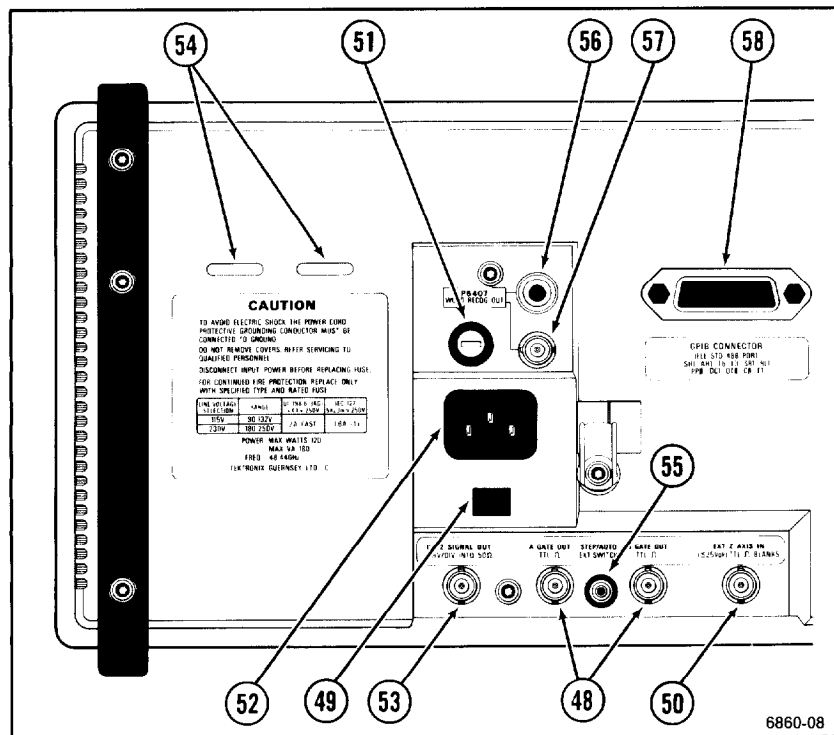

Figure 5-7. Rear panel controls and connectors.
Refer to Figure 5-7 for the location of items 48 through 58.
- ④8 **A GATE OUT and B GATE OUT** Provide TTL-compatible, positive-going gate signals that are HI during their respective sweeps and LO while the sweep is not running. When the A SEC/DIV switch is set to 5 ns per division, a gate signal is present at both the A GATE OUT and the B GATE OUT connectors.
- ④9 **Line Voltage Selector Switch** Selects either 115 V or 230 V nominal ac-power-source voltage.
- ④0 **EXT Z-AXIS IN Connector** Provides an input for external signals to modulate the display intensity.
- ④1 **Fuse Holder** Contains the ac power-source fuse.
- ④2 **Detachable Power Cord Receptacle** Connects the ac power source to the instrument.
- ④3 **CH 2 SIGNAL OUT Connector** Supplies a normalized signal that represents the Channel 2 input signal.
- ④4 **Mod Slots** Contain identification of any installed instrument modifications.
- ④5 **STEP/AUTO EXT Switch Connector** A connector on the rear panel accepts a standard, 2.5-mm, micro-phono plug, compatible with some commonly available remote-control switches for audio recorders. A contact closure or TTL-low at this input produces the same effect as operating the STEP/AUTO button.